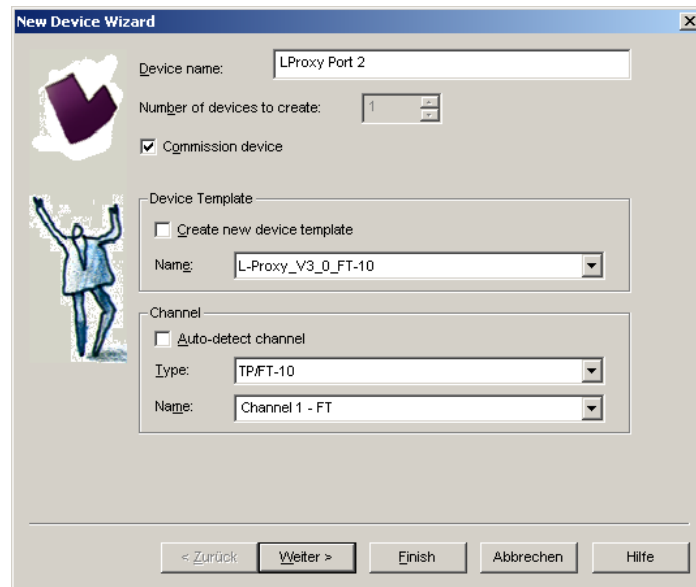

Figure 71: Create a new device in the drawing.
1. In your LonMaker drawing, drag a device stencil into the drawing. Enter an appropriate name as shown in Figure 71.